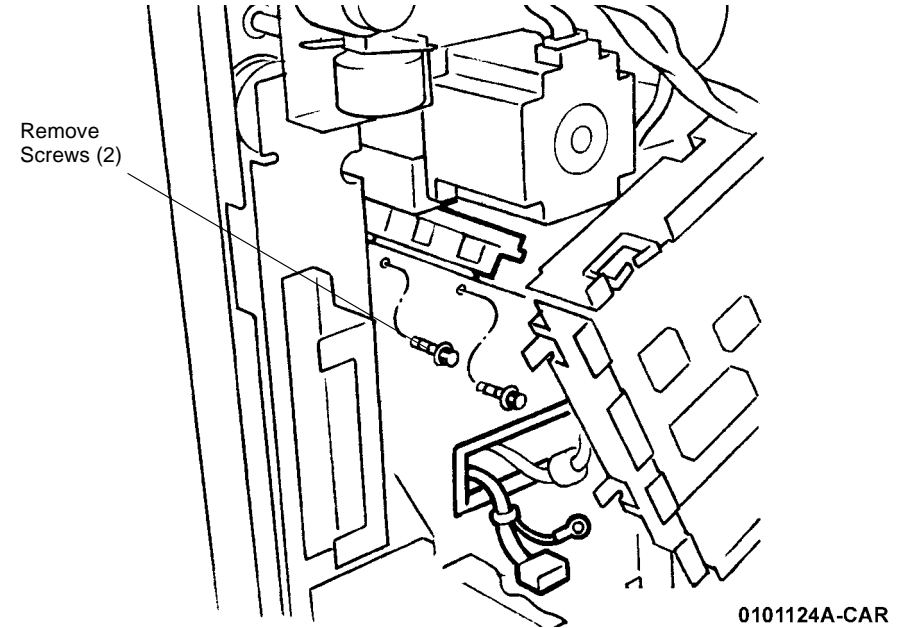

Figure 5 Removing Rear Rail Mounting Screws
6. Remove Rear Rail Mounting Screws (2) (Figure 5).